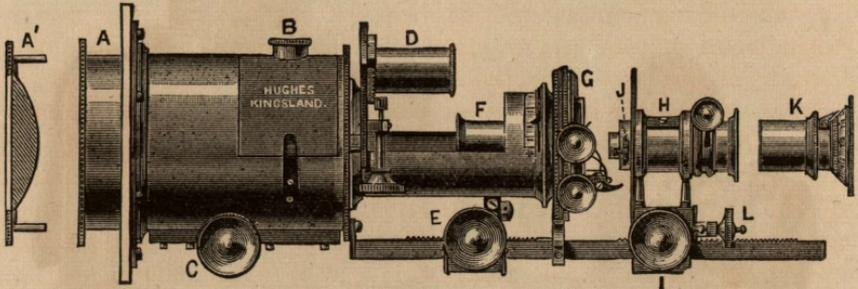

Fig. 55.
Fig. 55 illustrates this instrument which has all the latest improvements made up to the present time and has the polarizing prisms fitted, so that nearly all the experiments both in polarized light and projection can be shown to the class without in any way altering the instrument, a very great advantage to the demonstrator.
Reference to Fig. 55, shows—(A) cells containing condensers, one of which is fitted in cell upon a moveable rack work.—(C) by which means the amount of divergence of rays can be altered, this arrangement is for use with electric light, when the oxyhydrogen is used, the third lens (A') marked for "lime light only" must be added.—(B) Alum trough.—(D) polarizing prism made to rotate by means of milled head, this is shown in drawing thrown out of position, and is so placed when the ordinary projection microscope is in use, the aperture of body being covered by a moveable lid.—(E) rack work adjustment for substage condensers and all apparatus used behind the object.—(F) substage condenser. (G) mechanical rotating stage having  $\frac{3}{4}$ " motion in rectangular directions and is divided to 360 for use in crystallography.—(H) object glass holder on rack work which admits of focussing the different objectives.—(L) fine adjustment by means of  $\frac{1}{16}$ " thread screw, this admits of the most delicate manipulation and is indispensable when high power objectives are in use.—(K) analyzing prism rotating mount also divided to 360°.—(J) dovetail slot in object glass holder to carry the quarter wave plate and Kleins quartz immediately behind the objective.